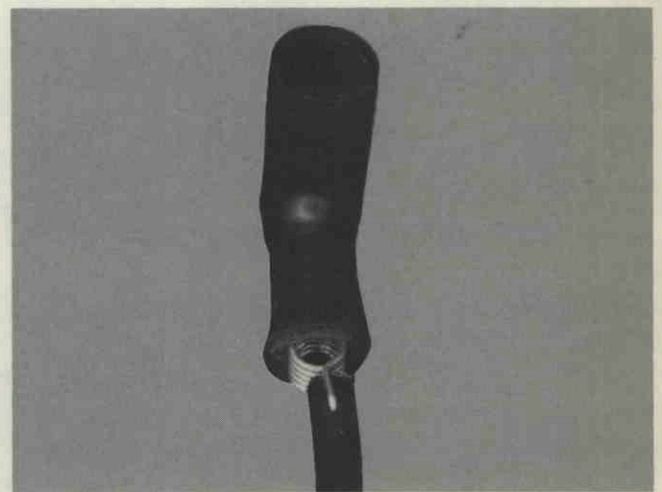

Figure 36. Sparkie Cover and Spring
8. Remove sparkie cover and sparkie spring from end of lead wire. Figure 36.
7. Reinstall sparkie spring and cover at end of spark plug lead wire. Be sure sparkie spring is making contact with wire inside insulation. (Refer to Figure 36.)